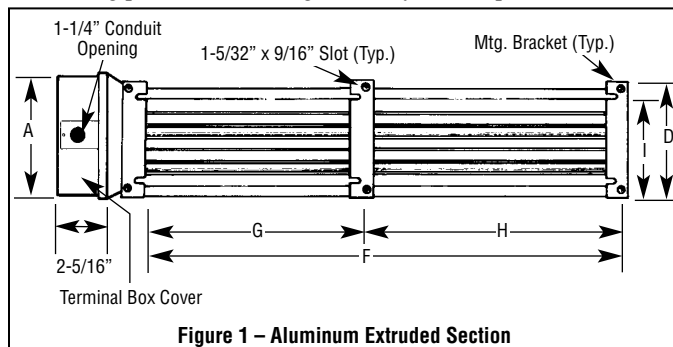

Figure 1 – Aluminum Extruded Section
1. **Framing:** Fabricate structural support using angle iron or continuous slot metal framing (manufactured by others). Dimension framing per Table B and Figure 1 for your size panel.